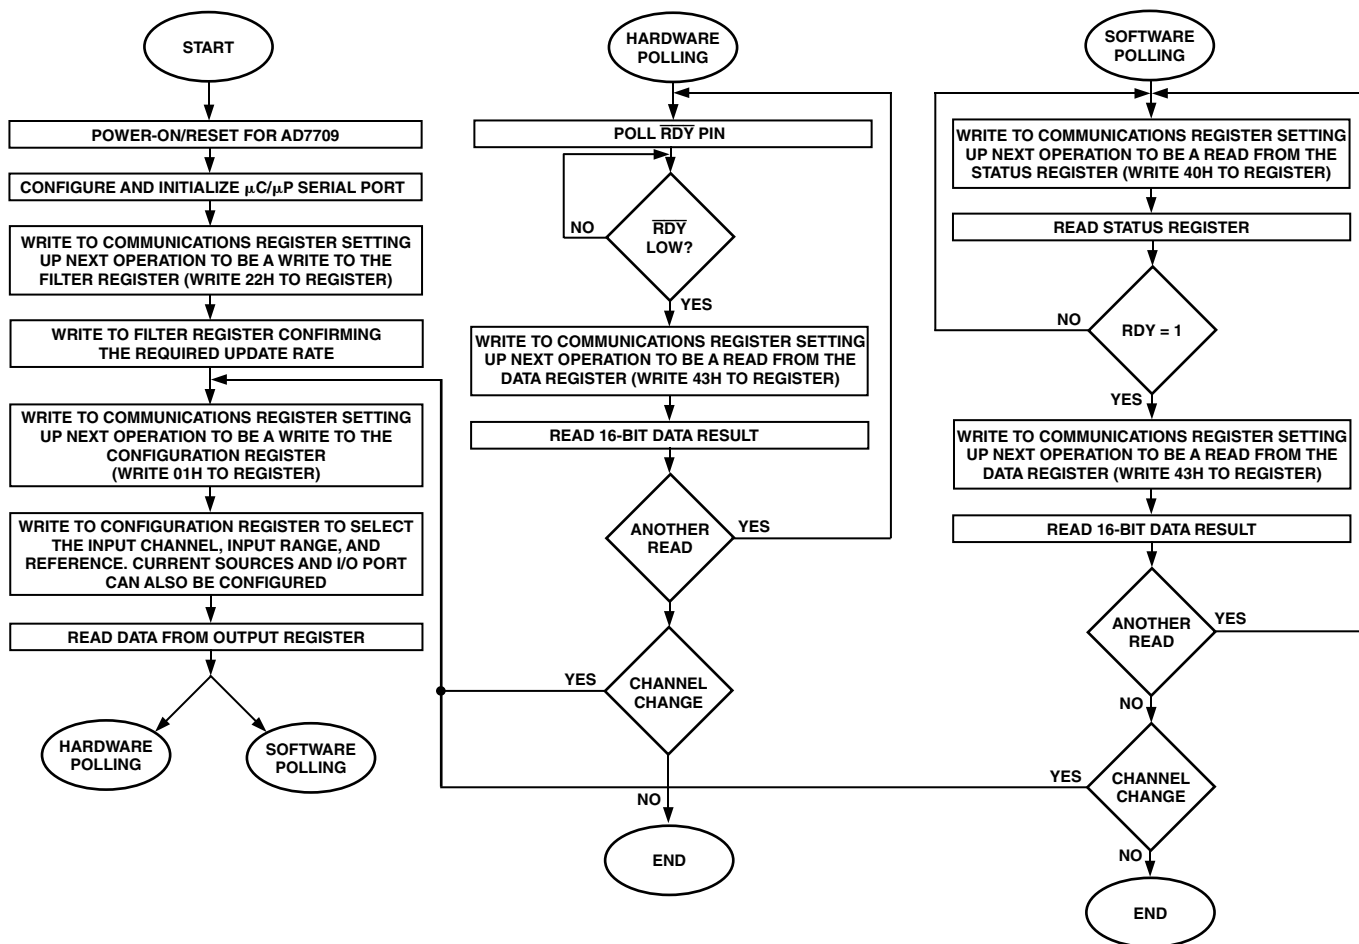
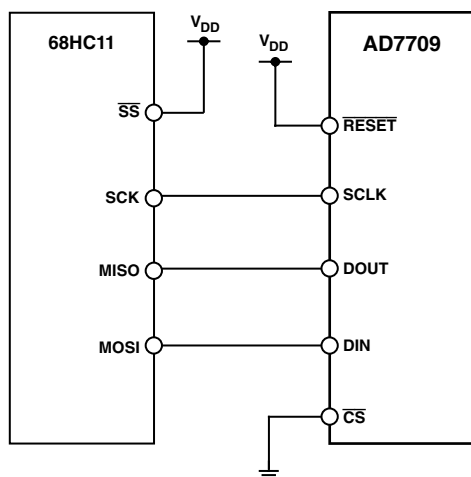

Figure 10. Flowchart for Initializing and Reading Data from the AD7709
Figure 11. AD7709-to-68HC11 Interface
Figure 10 outlines a flow diagram of the sequence used to configure all registers after a power-up or reset on the AD7709. The flowchart shows two methods of determining when it is valid to read the data register. The first method is hardware polling of the $\overline{\text{RDY}}$ pin and the second method involves software interrogation of the RDY bit in the status register. The flowchart details all the necessary programming steps required to initialize the ADC and read data from the ADC channel following a power-on or reset. The steps can be broken down as follows:
3. When configuration is complete, the user needs to determine when it is valid to read the data from the data register. This is accomplished either by polling the RDY pin (hardware polling) or by interrogating the RDY bit in the STATUS register (software polling). Both are shown in Figure 10.
The AD7709's flexible serial interface allows for easy interface to most microcomputers and microprocessors. The flowchart of Figure 10 outlines the sequence that should be followed when interfacing a microcontroller or microprocessor to the AD7709. Figures 11, 12, and 13 show some typical interface circuits. The serial interface on the AD7709 is capable of operating from just three wires and is compatible with SPI interface protocols. The 3-wire operation makes the part ideal for isolated systems where minimizing the number of interface lines minimizes the number of opto-isolators required in the system. The serial clock input is a Schmitt-triggered input to accommodate slow edges from optocouplers. The rise and fall times of other digital inputs to the AD7709 should be no longer than 1 μ s.
Figure 11 shows an interface between the AD7709 and the 68HC11 microcontroller. The diagram shows the minimum (3-wire) interface with \overline{CS} on the AD7709 hard-wired low. In this scheme, the RDY bit of the Status Register is monitored to determine when the Data Register is updated. An alternative scheme, which increases the number of interface lines to four, is to monitor the \overline{RDY} output line from the AD7709. The monitoring of the \overline{RDY} line can be done in two ways. First, \overline{RDY} can be connected to one of the 68HC11's port bits (such as PC0), which is configured as an input. This port bit is then polled to determine the status of RDY. The second scheme is to use an interrupt driven system, in which case the RDY output is connected to the IRQ input of the 68HC11. For interfaces that require control of the \overline{CS} input on the AD7709, one of the port bits of the 68HC11 (such as PC1), which is configured as an output, can be used to drive the \overline{CS} input.